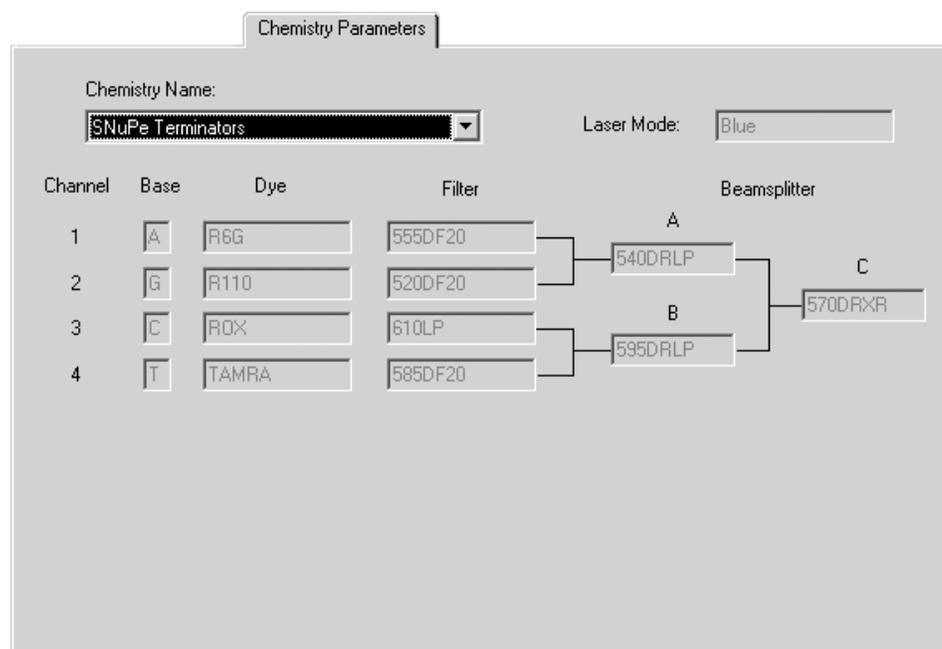

Figure 14-2. The Chemistry Parameters tab of the Plate Set Setup window, displaying the parameters for the SNUPe dye set.
- Chemistry Parameters tab (figure 14-2)
- In the **Chemistry Parameters** tab (figure 14-2), select a name from the **Chemistry Name** list.